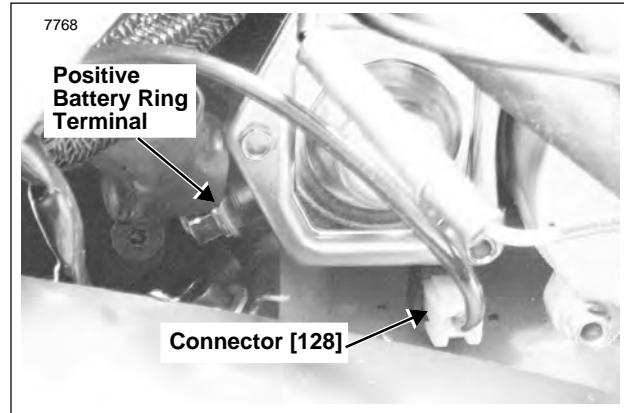
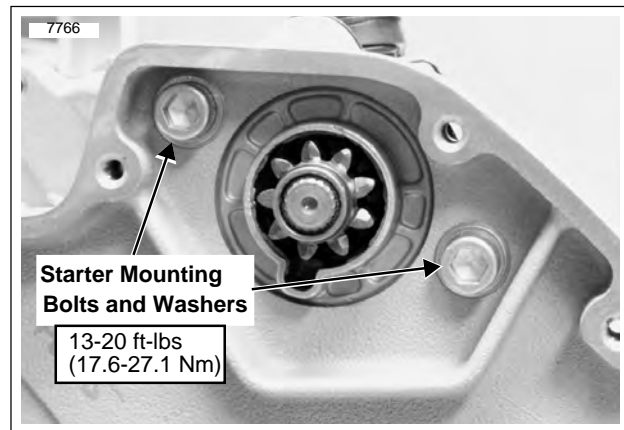

Figure 5-28. Starter Wires
Figure 5-29. Starter Mounting (Primary Side)
2. See Figure 5-28. Connect wiring to starter.
- a. Connect solenoid wire (3).
- b. Attach positive battery cable ring terminal (2).
- c. Install nut with washer (1) (metric). Tighten to 60-85 **in-lbs** (6.8-9.6 Nm).
3. See Figure 5-29. Install both starter mounting bolts and washers. Tighten to 13-20 ft-lbs (17.6-27.1 Nm).